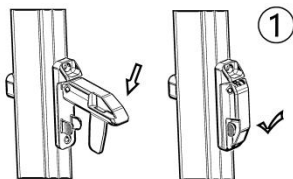

Figure D17
2.5 Close the safety locks and tighten the tension rod screws. The awning has been fully retracted. (Figure D17)